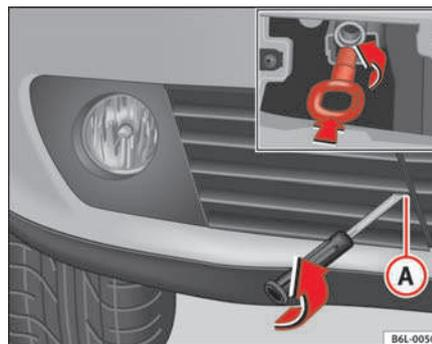

Fig. 159 Towing eye at the front of the vehicle
- Remove the bolt  ⇒ page 224, fig. 159.